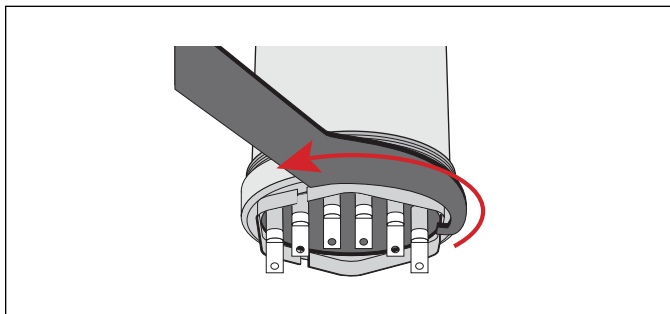

Figure 21
4. Use a suitable wrench to remove the element containing cap from the water heating canister. See Figure 21.